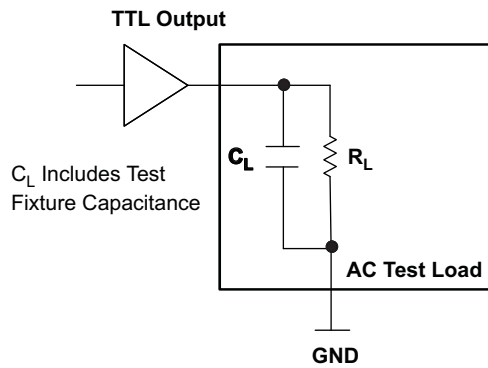

Figure 1. TTL Output AC Test Loading Condition
- (1) The device will meet the specifications after thermal equilibrium has been established when mounted in a test socket or printed circuit board with maintained transverse airflow greater than 500 lfpm. Electrical parameters are assured only over the declared operating temperature range. Functional operation of the device exceeding these conditions is not implied. Device specification limit values are applied individually under normal operating conditions and not valid simultaneously.
- (2) $R_L = 500\ \Omega$ to GND and $C_L = 20\text{ pF}$ to GND . See Figure 1.
- (3) $V_{\text{PP}(\text{min})}$ is minimum input swing for which ac parameters are assured.